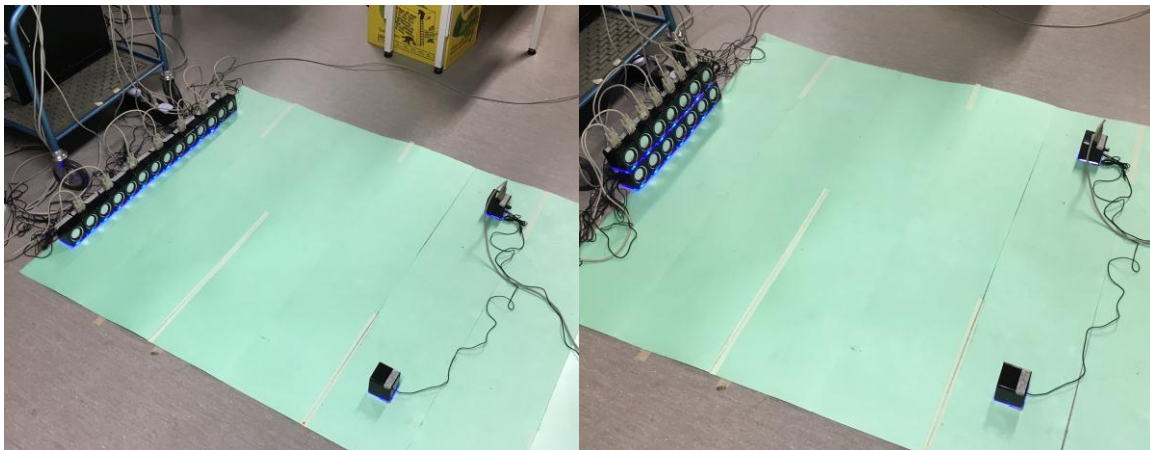

Figure 2: Recommended L/M positions
1. Place out the L/M's according to one of the recommended configurations in Figure 2, or in some other configuration that makes for an interesting test.